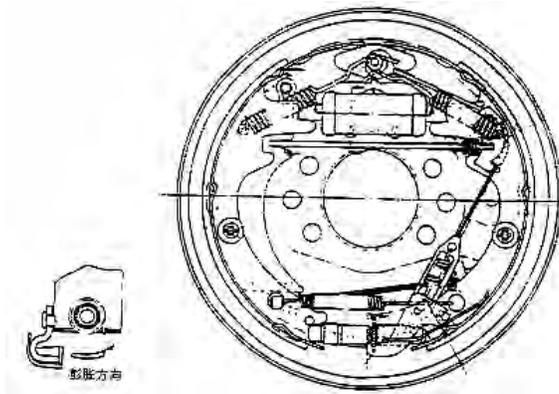

figure 2-30
2.6.4 Operating trial for self-adjustor of clearance See figure 2-30